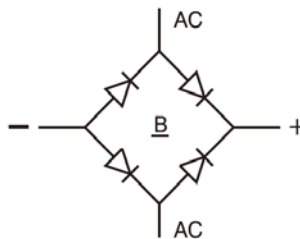

FIGURE 2
2. Surge current waveform per Figure. 3 and derate per Figure. 2.